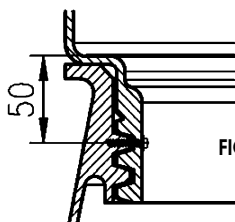

FIG. 11
- After screwing on the extension, you should prevent it from loosening by using the screws provided. To this end, drill a Ø 3mm hole in the lower threading zone of the extension and tank threading, then screw in the screws (See FIG. 11 below).